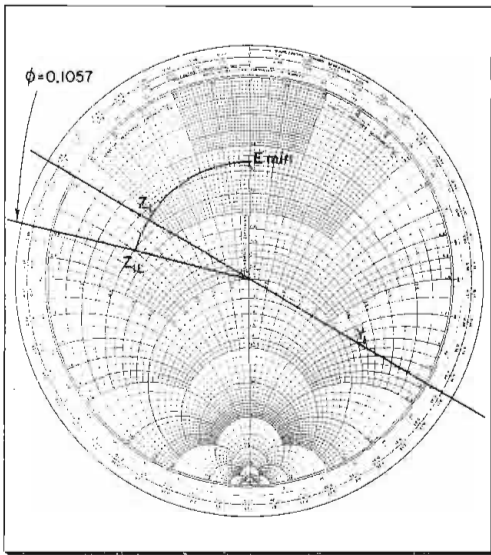

Fig. 5:  $Z_L$  when given  $Z_0$ ,  $\rho$ , distance to  $E_{min}$
**EXAMPLE 6:** (See Fig. 5.) An unknown impedance,  $Z_L$ , placed at the end of a 50 ohm slotted line (whose cm. scale zero is on the generator side) causes a voltage minimum at 6.27 cm. and a  $\rho$  of 3.7. When the impedance is shorted, voltage minima occur at 7.96 and 15.96 cm. Find  $Z_L$ .